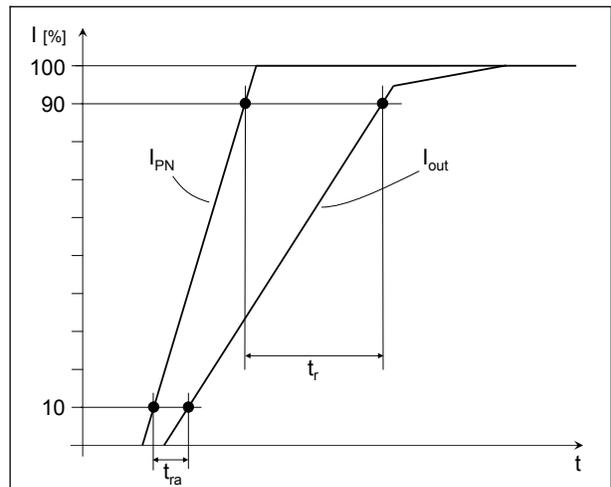

Fig.1: Definition of reaction ( $t_{ra}$ ) and response time ( $t_r$ ).
- 4)  $I_P = I_{PN}$  with  $di/dt$  of  $6 \text{ A}/\mu\text{s}$ . See Fig.1.